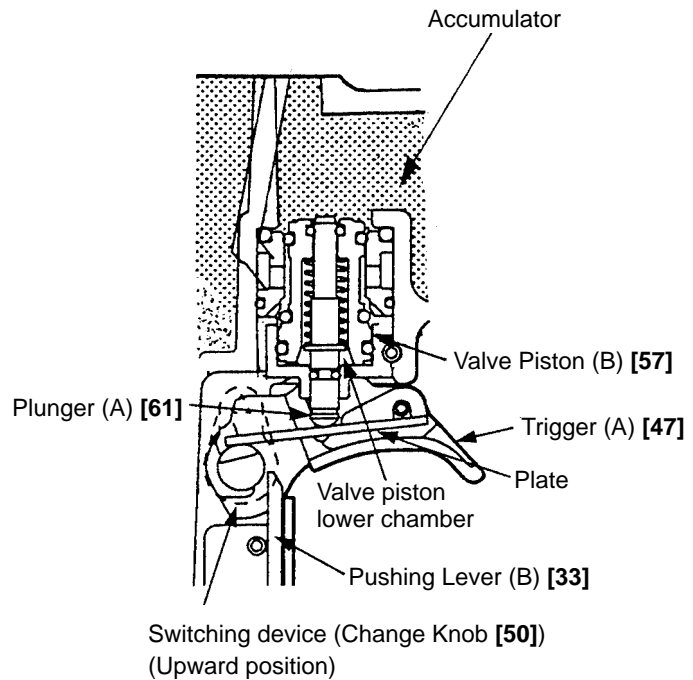
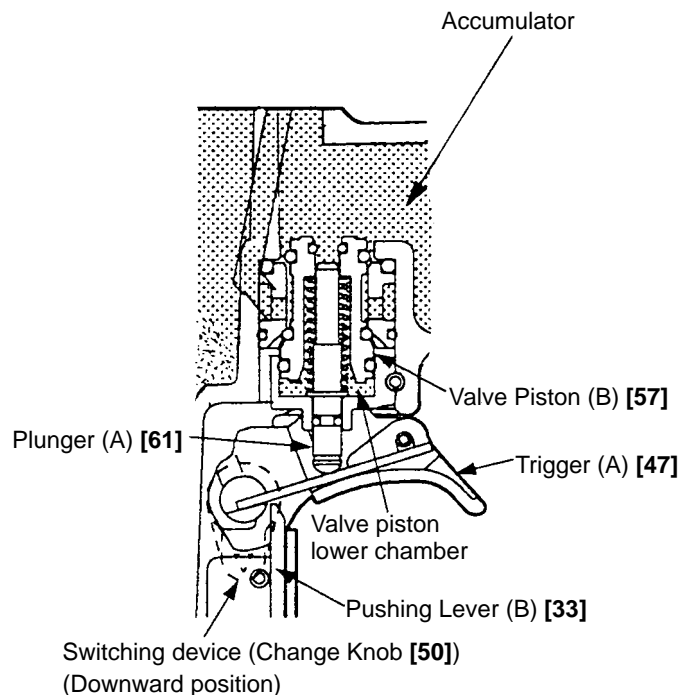

Fig. 9 Single actuation mechanism
Fig. 10 Contact actuation mechanism
(4) Single actuation mechanism/contact actuation mechanism: (Fig. 9 and Fig. 10)
- 2) When only Pushing Lever (B) [33] is released and Trigger (A) [47] is held as shown in Fig. 9, the plate of Trigger (A) [47] contacts the Change Knob [50] and Plunger (A) [61] returns (lowers) only halfway.
- 2) Even when only Pushing Lever (B) [33] is released and Trigger (A) [47] is held, Plunger (A) [61] returns (lowers) completely as shown in Fig. 10. Thus the Piston [19] returns (raises) fully. Accordingly, continuous nailing can be accomplished by pushing only Pushing Lever (B) [33] up and down while holding Trigger (A) [47] depressed.